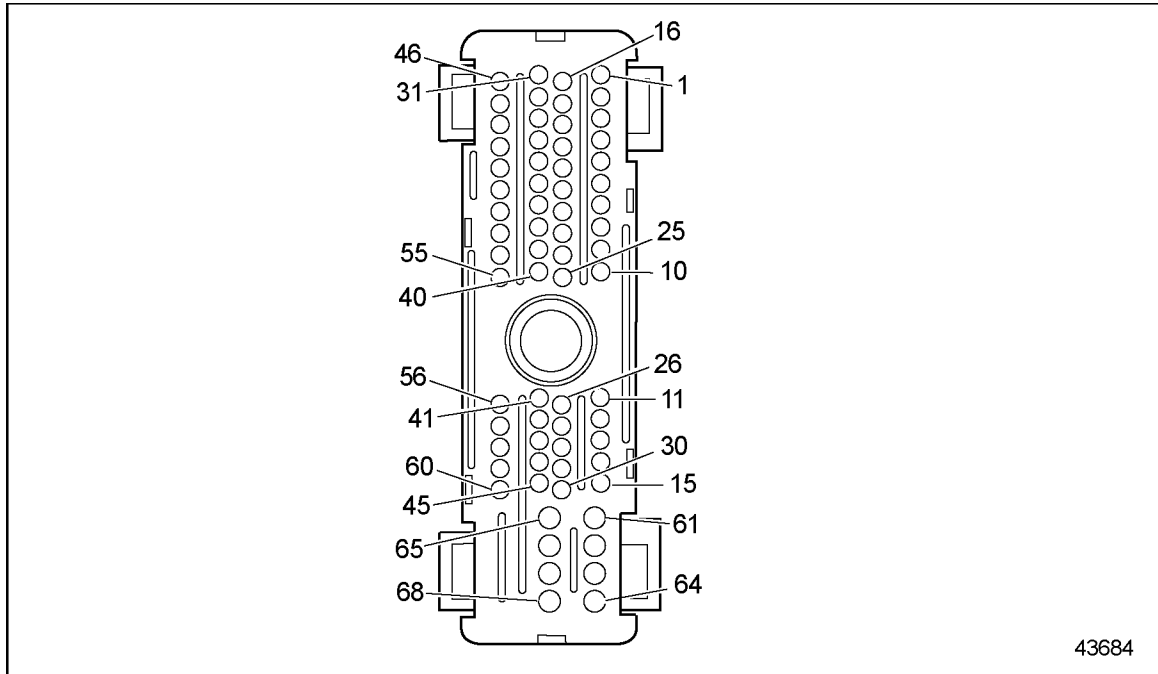

Figure 27-4 ECM/ECU Vehicle Harness Connector
- 3. Check terminals at the ECM/ECU harness connector (both ECM/ECU and harness side) for bent, corroded, and unseated pins or sockets. See Figure 27-4.
2. Measure resistance between sockets B and V-60, C and V-11 on the TPS/AP Sensor harness connector. See Figure 27-4.
3. Check terminals at the ECM/ECU harness connector (both ECM/ECU and harness side) for bent, corroded, and unseated pins or sockets. See Figure 27-4.
6. Check terminals at the ECM/ECU harness connector (both ECM/ECU and harness side) for bent, corroded, and unseated pins or sockets. See Figure 27-4.